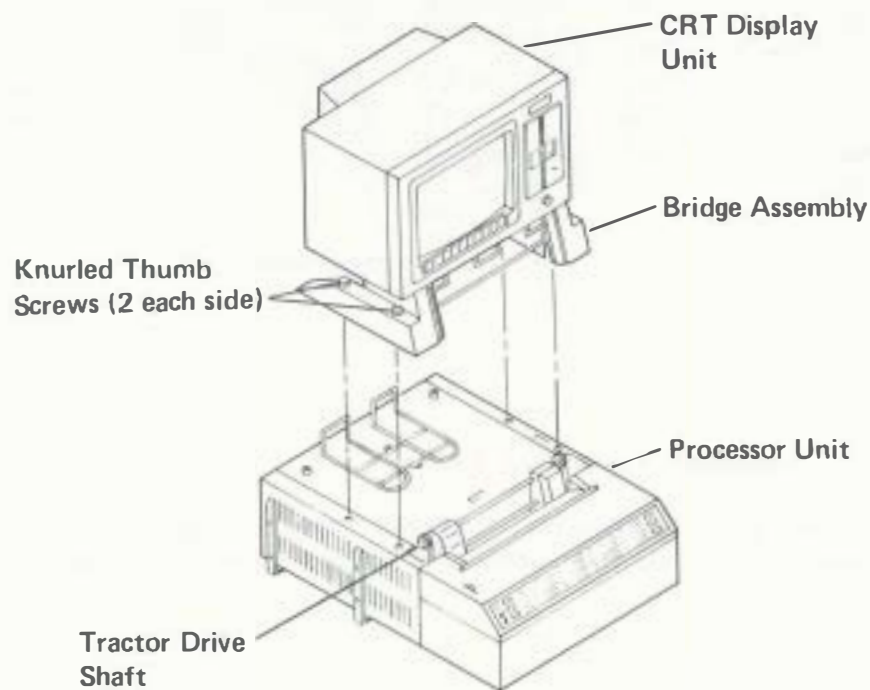

Figure 5-2. CRT Display Unit and Bridge Assembly
7. Remove the CRT display unit and bridge assembly by loosening the four knurled thumb screws on the bridge and lifting the assembly. Move the assembly out of your way. See Figure 5-2.
3. Place the CRT display unit and bridge assembly on the processor unit over the bridge mounting holes and secure it to the processor unit by tightening the four knurled thumb screws on the bridge. See Figure 5-2.